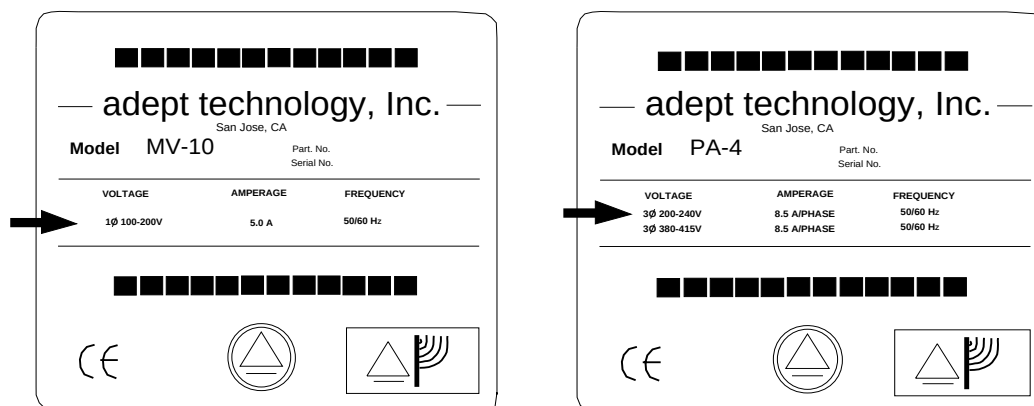

**Figure 4-18. Power Labels**
4. Clearly mark or alter the ID label, on the side of the PA-4 chassis, to show the new voltage configuration (see Figure 4-18).
4. Clearly mark or alter the ID label, on the side of the PA-4 power chassis, to show the new voltage configuration (see Figure 4-18 on page 90).